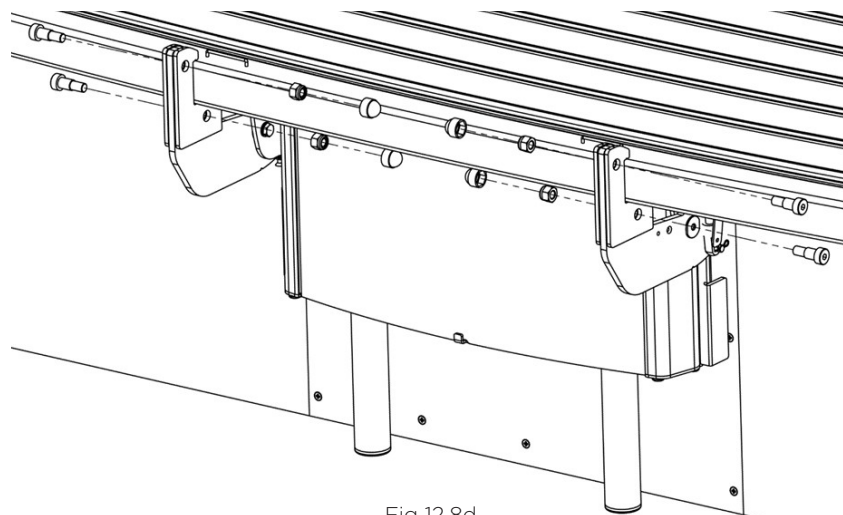

Fig 12.8d
- Once in position secure the M10 x 16 mm bolts and M10 nuts provided. Finish by covering the nut with the caps provided as shown in Fig 12.8d.